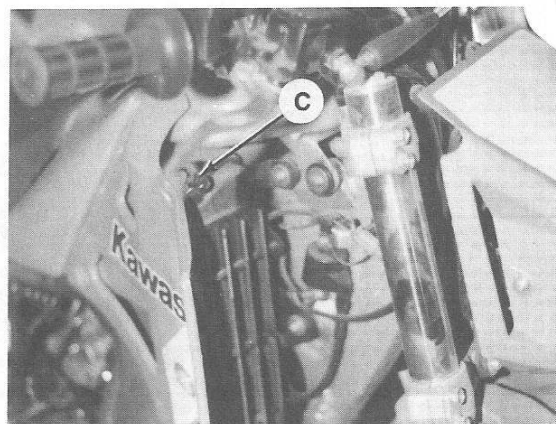

Fig. K10-14—View identifying location of radiator cap (C).
To drain coolant on A1 and A2 models, remove radiator cap (C—Fig. K10-14) and drain plug in water pump housing (below water pump housing outlet neck) and allow coolant to drain into a suitable container. On B1 and B2 models, remove radiator cap (C) and drain plug (D—Fig. K10-15) in water pump housing and allow cool-
Before refilling cooling system, install and tighten drain plugs. On B1 and B2 models, an air bleed screw is located on top of cylinder head housing. Loosen air bleed screw. On all models, pour recommended coolant mixture into radiator cap (C—Fig. K10-14) opening. On B1 and B2 models, tighten air bleed screw when coolant mixture begins to flow from around screw threads. Pour in recommended amount of coolant mixture.
RADIATOR CAP. Radiator cap (C—Fig. K10-14) should have a relief opening pressure of 93-123 kPa (13.5-17.8 psi).
Fig. K10-15—On B1 and B2 models, remove filler cap (P) to add coolant to cooling system reservoir (R). Remove radiator cap (C—Fig. K10-14) and drain plug (D) to drain cooling system.